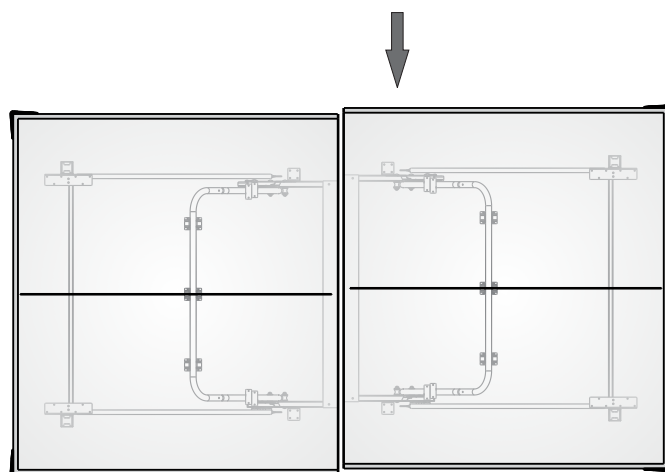

Figure 19
IF TABLE IS NOT ALIGNING CORRECTLY: (see Figure 19)
3. With the help of two other adults, push the two table top halves so they are in line with each other and re-tighten the Wing Nuts (#32) as shown in Figure 19.
4. Raise other table half in the same manner as shown in Figure 19.